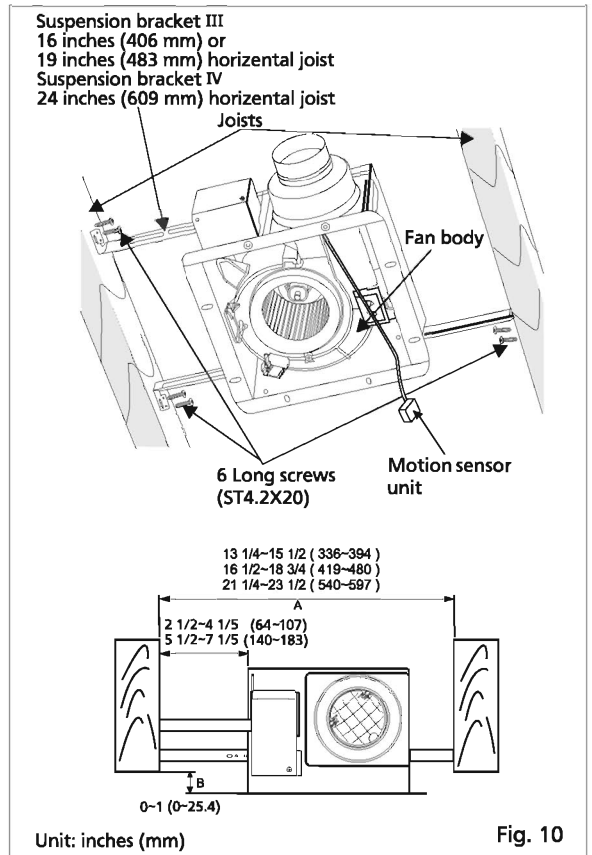

Fig. 10
2. Insert the suspension bracket I and II into the fan body and suspension bracket III or IV into the adaptor. (Select the suspension bracket connection holes as shown below) (Fig.9, Fig.10)
3. Install the suspension bracket to joists by using long screws (ST4.2X20) (Fig.10) and secure it to the fan body by using screw II (ST4.2X14). (Fig.11)